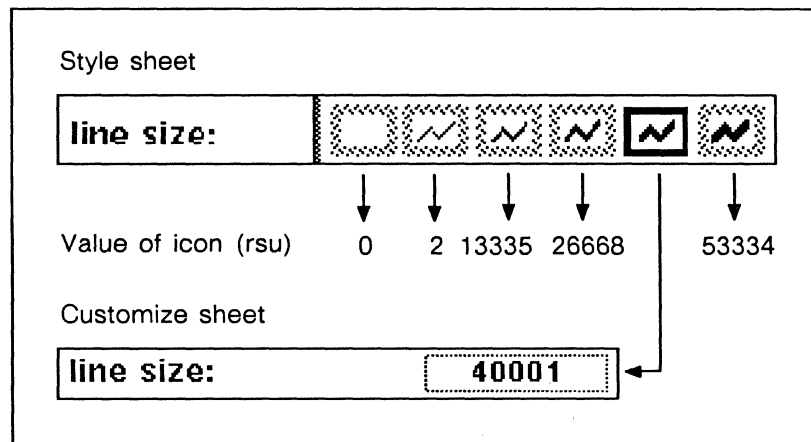

Figure 29-16. Numeric value of line size icons
**Line size.** On the Style sheet for a line chart you can select one of six icons to determine the thickness of the data lines. Each of these icons represents an rsu value on the Customize sheet (Figure 29-16). To achieve more subtle variations or greater thicknesses, modify the value of *line size* on the Customize sheet.